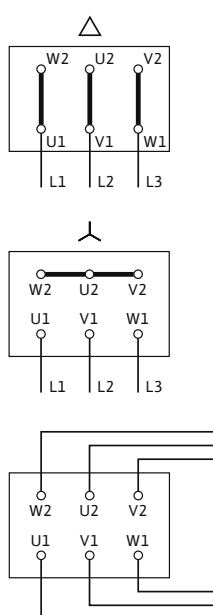

Fig. 17: Mains connection
The connection diagram for electrical connections is in the cover of the terminal box cover (see also Fig. 17).
- The mains connection is dependent on the motor power P_2 , the mains voltage and the activation type. The recommended switching arrangement of the connection bridges in the terminal box should be taken from the following list "Tab. 4: Connection terminal assignment" on page 45 and Fig. 17.
| Direct | Δ -connection (Fig. 17 top) | Y-connection (Fig. 17 centre) | Δ -connection (Fig. 17 top) |
| Y- Δ starting | Remove connection bridges (Fig. 17 below) | Not possible | Remove connection bridges (Fig. 17 below) |